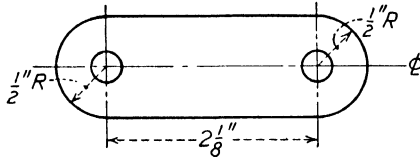

Fig. 133.—Washer plate with 2 holes drilled  $5/16$  in. in diameter.
5. Make a full-scale drawing of this fitting shown in Fig. 133.